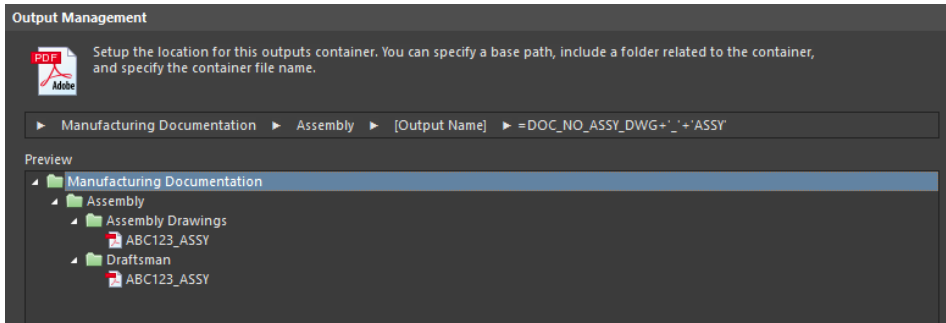

Figure 31. Assembly Drawing settings dialog
89. Open the `Assembly.OutJob` and click **Change** in the Assembly Drawing Output Container. Note the file naming convention for the assembly drawing has changed to `ABC123_ASSY`, Figure 31.